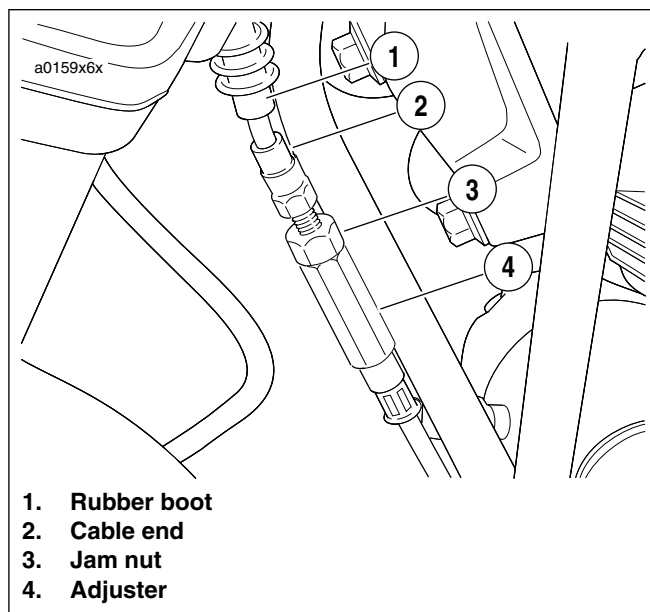

Figure 1-12. Clutch Cable Adjuster Mechanism
- See Figure 1-12. Slide rubber boot (1) upward to expose adjuster mechanism. Loosen jam nut (3) from adjuster (4). Turn adjuster to shorten cable housing until there is a large amount of freeplay at clutch hand lever.
- b. See Figure 1-12. Set freeplay by turning adjuster.